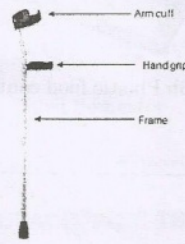

Fig. 15a Crutch
15. (a) A medical device unit is manufacturing crutches as shown in Fig.15a. The frame is made of aluminium whereas the arm cuff and hand grip are made of plastics (nylon 66). With a neat sketch, explain how the plastic components (arm cuff and hand grip) are manufactured using Plastic injection molding.